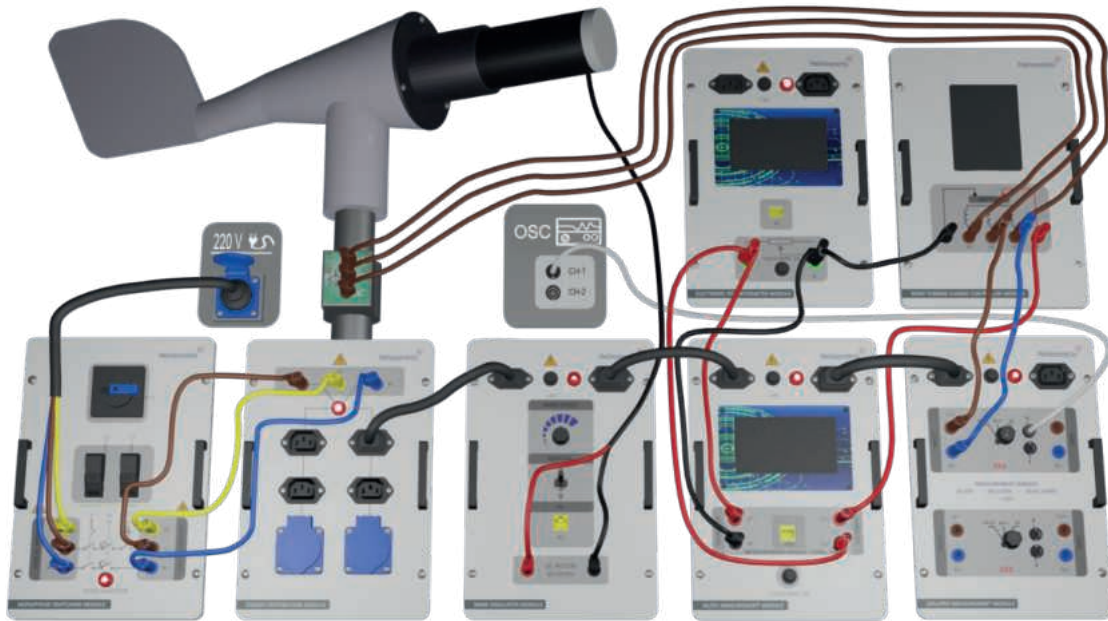

Figure-75 Installation Image of Examination of Variable Load Wind Turbine Charge Control System
- Make the connection as illustrated in Figure-75. Ensure that the caster of the wind turbine is locked to prevent movement.